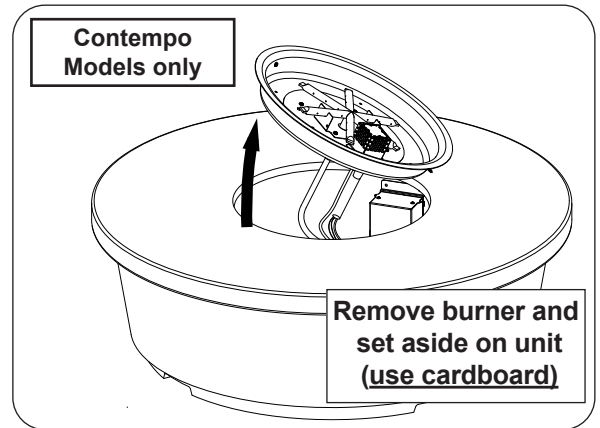

Fig. 47-1 Remove burner assy (if needed)
1. The burner will need to be removed. Prior to removal, rest cardboard over the surface of the table top (to prevent damage to the finish when the burner is set aside on the unit). Remove all media. Use a  $\frac{5}{16}$ " nut driver to partially unfasten the 2-4 screws found on the burner assembly. Then carefully remove the burner and set it off to the side. See Fig 47-1.